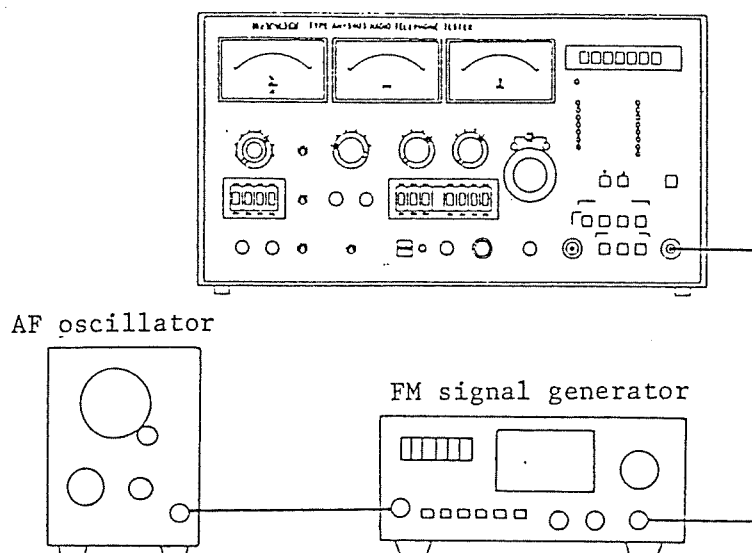

Fig. 3-11 Frequency deviation meter accuracy test
- (1) Connect an FM signal generator to the [RF INPUT/OUTPUT 50  $\Omega$  MAX. 25 W] connector of this apparatus as shown in Fig. 3-11.
- (2) Set the controls of this apparatus as follows: